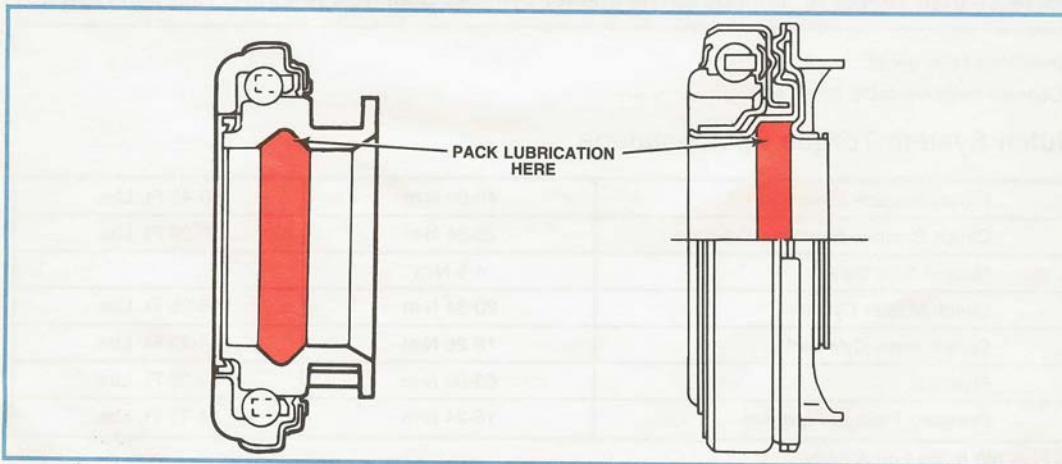

Figure 4-5, Release Bearing Lubrication.
3. Lightly lubricate the clutch fork ends which contact the bearing and completely pack full the I.D. recess of the release bearing with grease P/N 1051344 or equivalent (Figure 4-5). On 5-speed transaxle, be sure bearing pads are located on fork ends (pads must be indexed) and both spring ends are in fork holes with the spring completely seated in bearing groove.